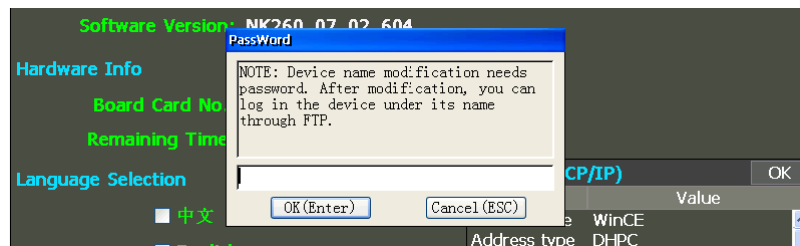

Fig. 3-58 Device info modification- password input
- 3) Click “ModDevice” to access the password input interface, as shown in Fig. 3-58.